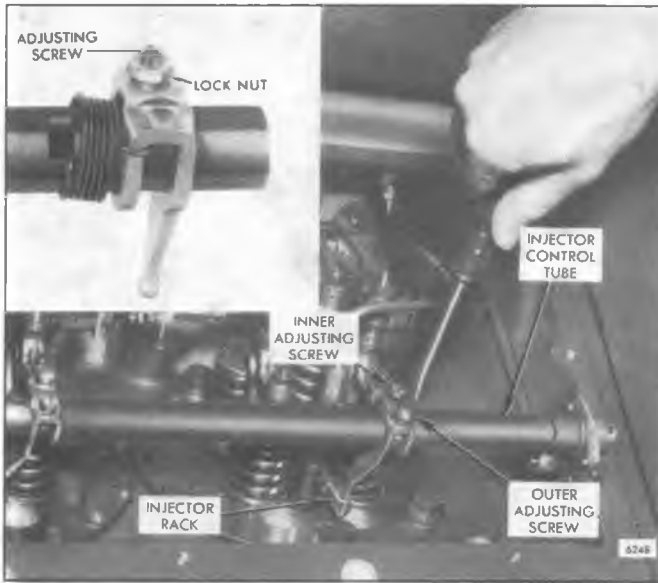

Fig. 6 - Positioning the No. 1 Injector Rack Control Lever
- a. With the fuel rod on the right-bank injector control tube removed and the fuel rod on the left-bank injector control tube installed, turn down the outer adjusting screw (two screw assembly) of the No. 1L injector rack control lever until the ball end of the lever is just snug against the injector rack (with the rack in the *no-fuel* position). Turn down the inner adjusting screw until it bottoms lightly on the injector control tube. Then alternately tighten both adjusting screws. On the one screw and locknut assembly, tighten the adjusting screw of the No. 1 injector rack control lever until the rack clevis is observed to roll up or an increase in effort to turn the screwdriver is noted (with the rack in the *no-fuel* position). Tighten the screw approximately 1/8 of a turn more and lock securely with the adjusting screw locknut. Refer to Fig. 6.